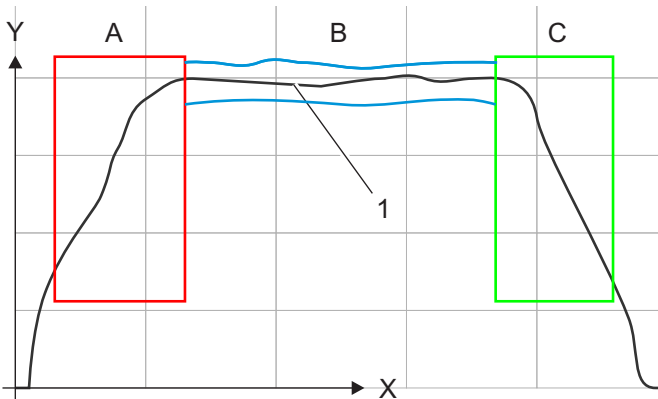

Fig. 4
The settings are possible if the *Range* operating mode is switched on (see 3.5.4). The pressure gradient of a dosing (1) can be monitored and displayed for each connected sensor with three different measurement ranges (see Fig. 4).